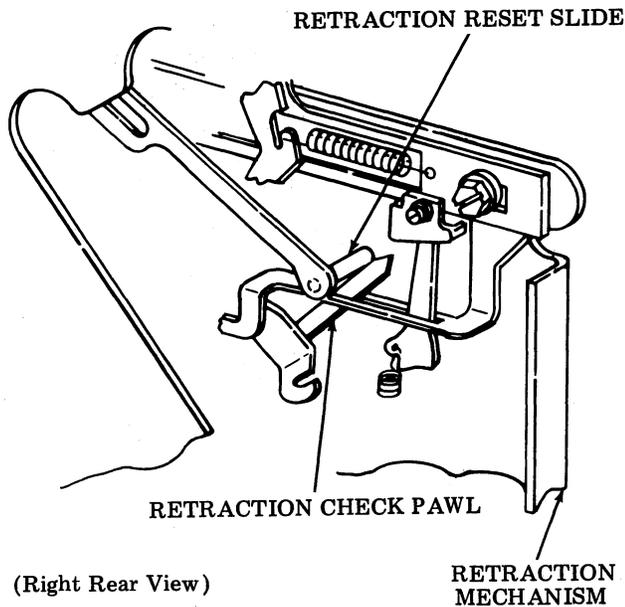

Figure 7 - Retraction Slide and Check Pawl
(3) View the left side of the typing unit and check the position of the retraction reset slide and the retraction check pawls in the retraction mechanism. The retraction reset slide shall be positioned in front of the retraction check pawls. Correct position is shown in Figure 7. If corrective action is required, move retraction reset slide out and around to the front of the check pawls.